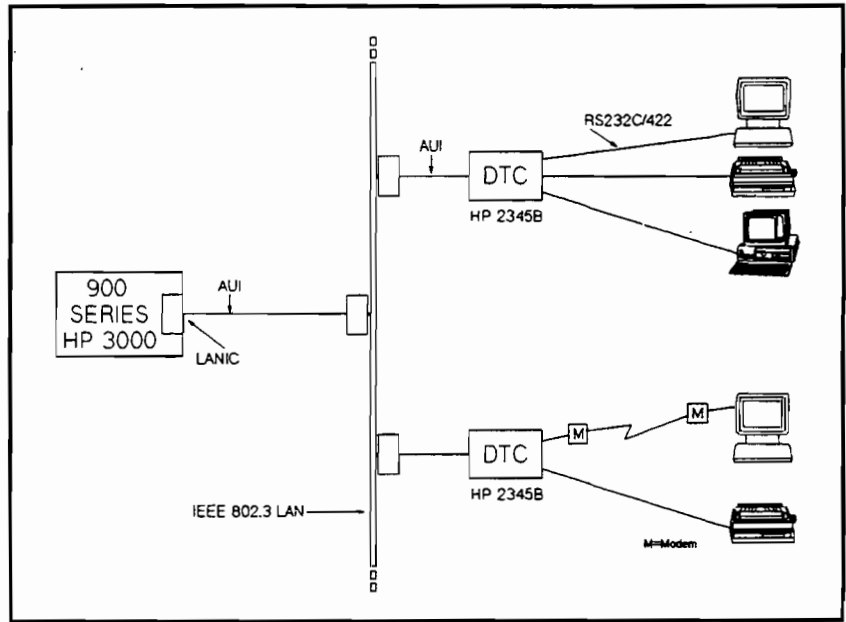

Figure 1-1. Datacommunications and Terminal Controller
- Figure 1-1. Datacommunications and Terminal Controller . . . 1-2
The DTC is housed in its own box, outside the system cabinet. This alleviates system limitations which are based on cabinet space considerations, and allows flexibility in the layout of terminal cables. Figure 1-1 represents the location of the DTCs in relation to the system, the LAN, and the terminals and printers connected to the system through the DTCs.